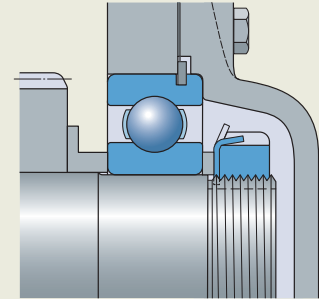

Fig. 12
- lock nuts or threaded rings (fig. 11 and fig. 12)